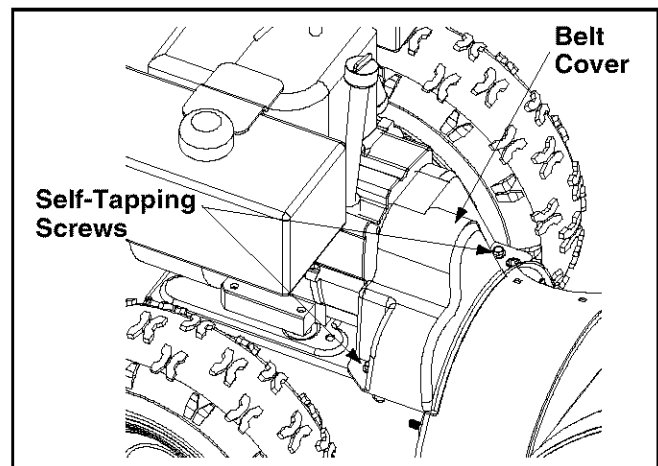

Figure 21
- Remove the plastic belt cover on the front of the engine by removing the two self-tapping screws. See Figure 21.
- Remove six self-tapping screws from the frame cover underneath the snow thrower. See Figure 21 for the location of the hardware.